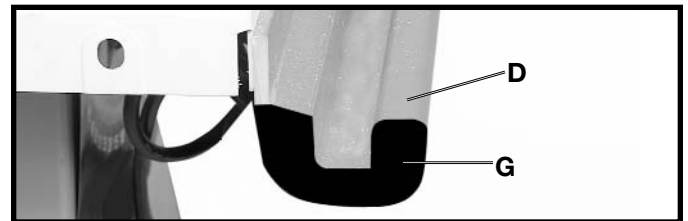

Fig. 42
4. Insert end cap (G) Fig. 42, onto each end of the guide rail (D) as shown. Using a block of wood and hammer, gently tap end caps until they are completely seated into each end of the guide rail. **NOTE:** Do not use a hammer directly against the end caps, this could cause damage to the aluminum rail.